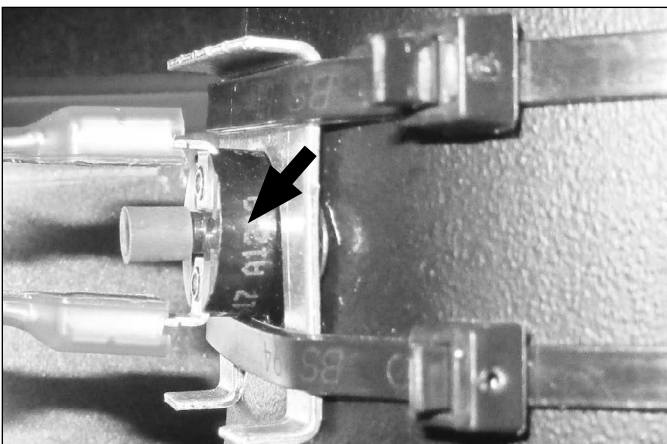

Figure 3. Remove vent limit switch.
- Remove the original vent switch from the vent diffuser (Figure 3).